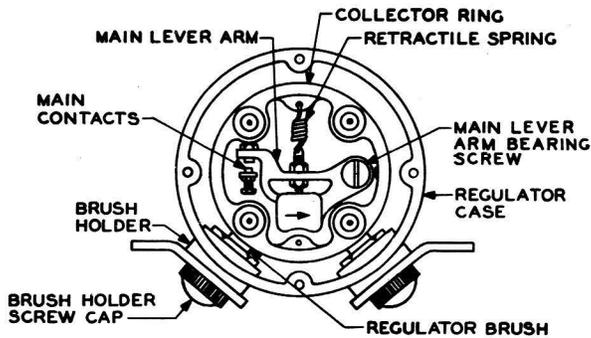

Fig. 6 - Regulator Main Contacts
**3.06 Speed Regulator (General Electric Co GSR type): Fig. 6 -**
**3.08 Speed Regulator (General Electric Co GSR type): Fig. 6 -**
3.17 Retractable Spring: Fig. 6 - To replace a retractile spring, mark and remove the brushes, as outlined in 3.06, and the speed regulator leads. Remove the regulator case from the adapter plate by loosening the case mounting screws and turning the case in a counterclockwise direction. Reassemble in the reverse order.
3.18 Main Lever Arm and Main Contacts: Fig. 6 - To replace a main lever arm or main contacts, remove the brushes, regulator case, and retractile spring as outlined in 3.16. Remove the main bearing screw and